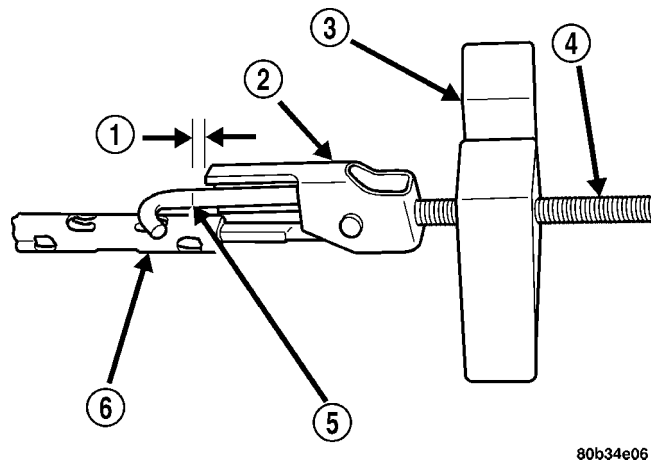

Fig. 96 Adjustment Mark On Cable Tensioner Rod
- (11) Raise vehicle again.
- (12) Mark tensioner rod 6.35 mm (1/4 in.) from edge of tensioner bracket (Fig. 96).
- (13) Tighten adjusting nut at equalizer until mark on tensioner rod moves into alignment with tensioner bracket.